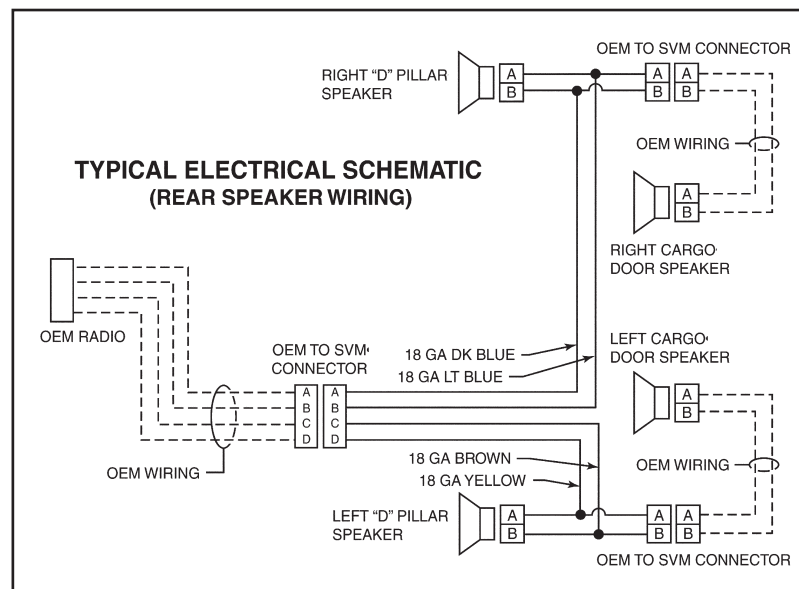

Figure 38
- Basic schematic drawings of Upfitter-added electrical systems (see Figure 38)